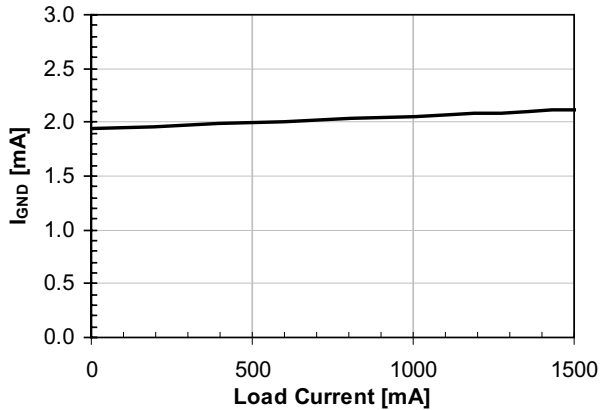

Figure 4. Ground Current
**Ground Current** is shown across the entire range of load conditions in Figure 4. The ground current of 2mA has minimal variation across the range of load conditions and shows only a slight increase at maximum load. This slight increase at rated load is due to the current limit protection circuitry becoming active.